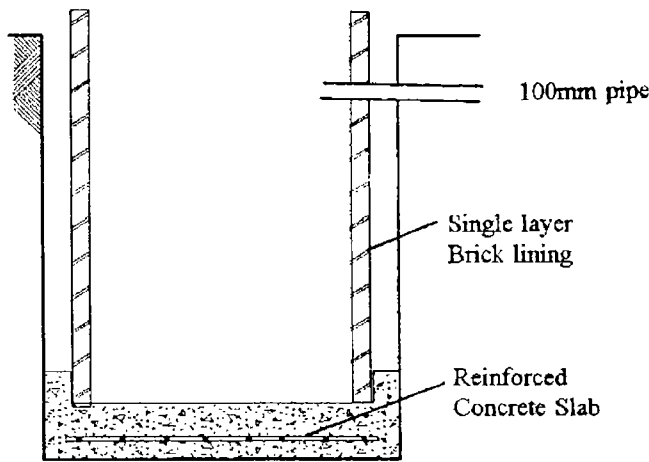

Figure 6. Aquaprivy pit
- When the rear wall reaches 150 millimetres from the ground surface, place the outlet pipe (a length of 100 millimetres diameter PVC pipe) in the wall. Build the rest of the wall around the outlet pipe. Figure 6 shows the pit with lip, walls and outlet pipe in place.